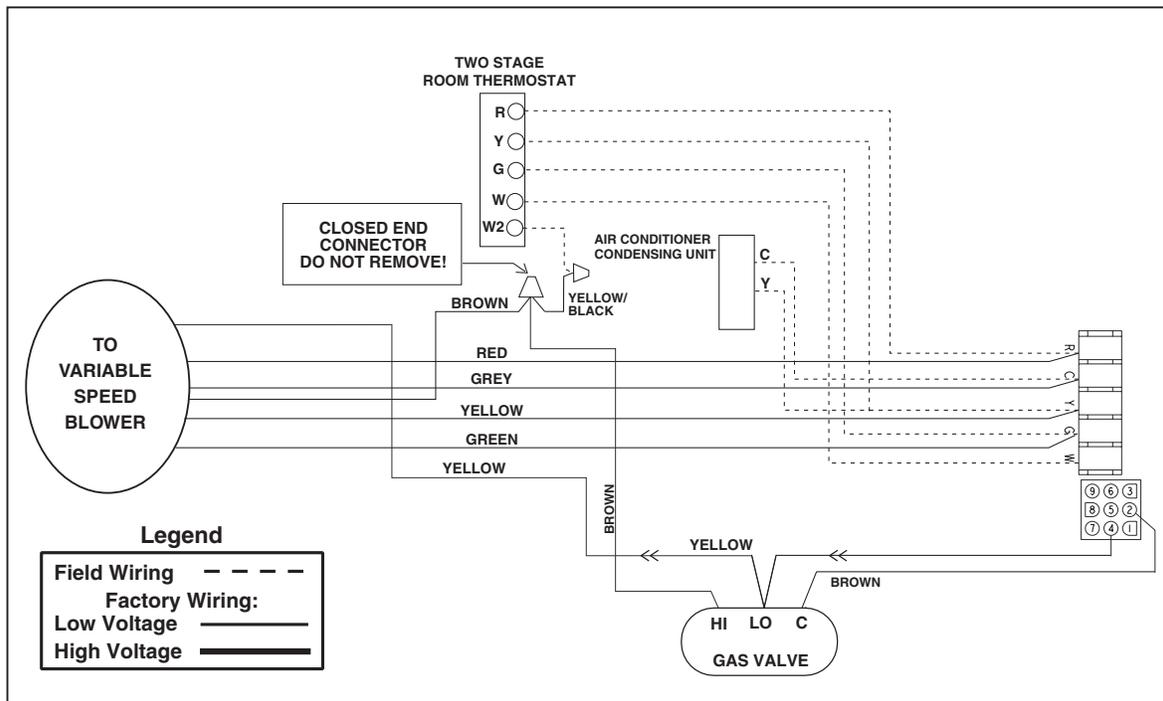

Figure 26a. Two Stage Configuration
1. *Two stage heating thermostat configuration* – For this installation a two stage heating thermostat is used. **CAUTION:** Disconnect yellow wire with black stripe from low firing on the gas valve. Remove female connector from yellow/black wire and strip insulation from end. Connect stripped yellow wire with black stripe to (W2) from the thermostat. (See Figure 26a). The first stage bulb (W1) is connected to W on the furnace control board. On a call for first stage heat, the furnace will operate at low fire and the blower will run at a lower speed. On a call for second stage heat, the furnace will operate at high fire and the blower will run at a higher speed. The furnace will stage between low fire, high fire, and off depending on the thermostat signal.
Install the thermostat per the manufacturer's instructions. The low voltage (24 volt) connections from the thermostat are made at the terminal strip on the control board in the furnace. See Figures 26a-26e for the proper connections for heating only (four wire) and heating/cooling (five wire) applications. The recommended minimum wire gauge for thermostat wiring is shown in Table 11.